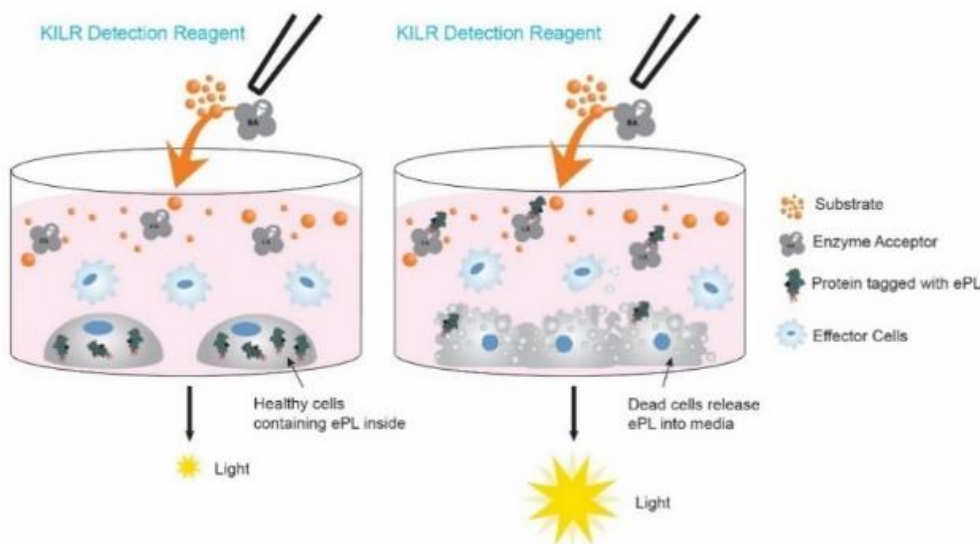

Figure 1: KILR Technology Principle
Eurofins DiscoverX has developed a KILR assay cell model expressing a KILR Reporter Protein, a housekeeping protein tagged with Enhanced ProLabel (ePL), a β -galactosidase (β -gal) reporter fragment. Cell death leads to rupture of the cell membrane, which results in the release of the KILR Reporter Protein into the medium. Addition of the KILR detection reagent, containing the complementing β -gal reporter fragment, Enzyme Acceptor (EA), results in complementation of the two enzyme fragments (EA and ePL; see Figure 1). The resulting active enzyme hydrolyzes a chemiluminescent substrate to generate a light signal. Very low signal is observed from healthy, intact cells, as the KILR Reporter Protein remains sequestered within the cells and cannot leak out of intact cell membranes. The signal measured from the well is directly proportional to the number of dead KILR target cells that have a compromised cell membrane, because only the target cells express the β -gal reporter fragment. The KILR platform measures direct target cell death hence no secondary bridging assay needed.